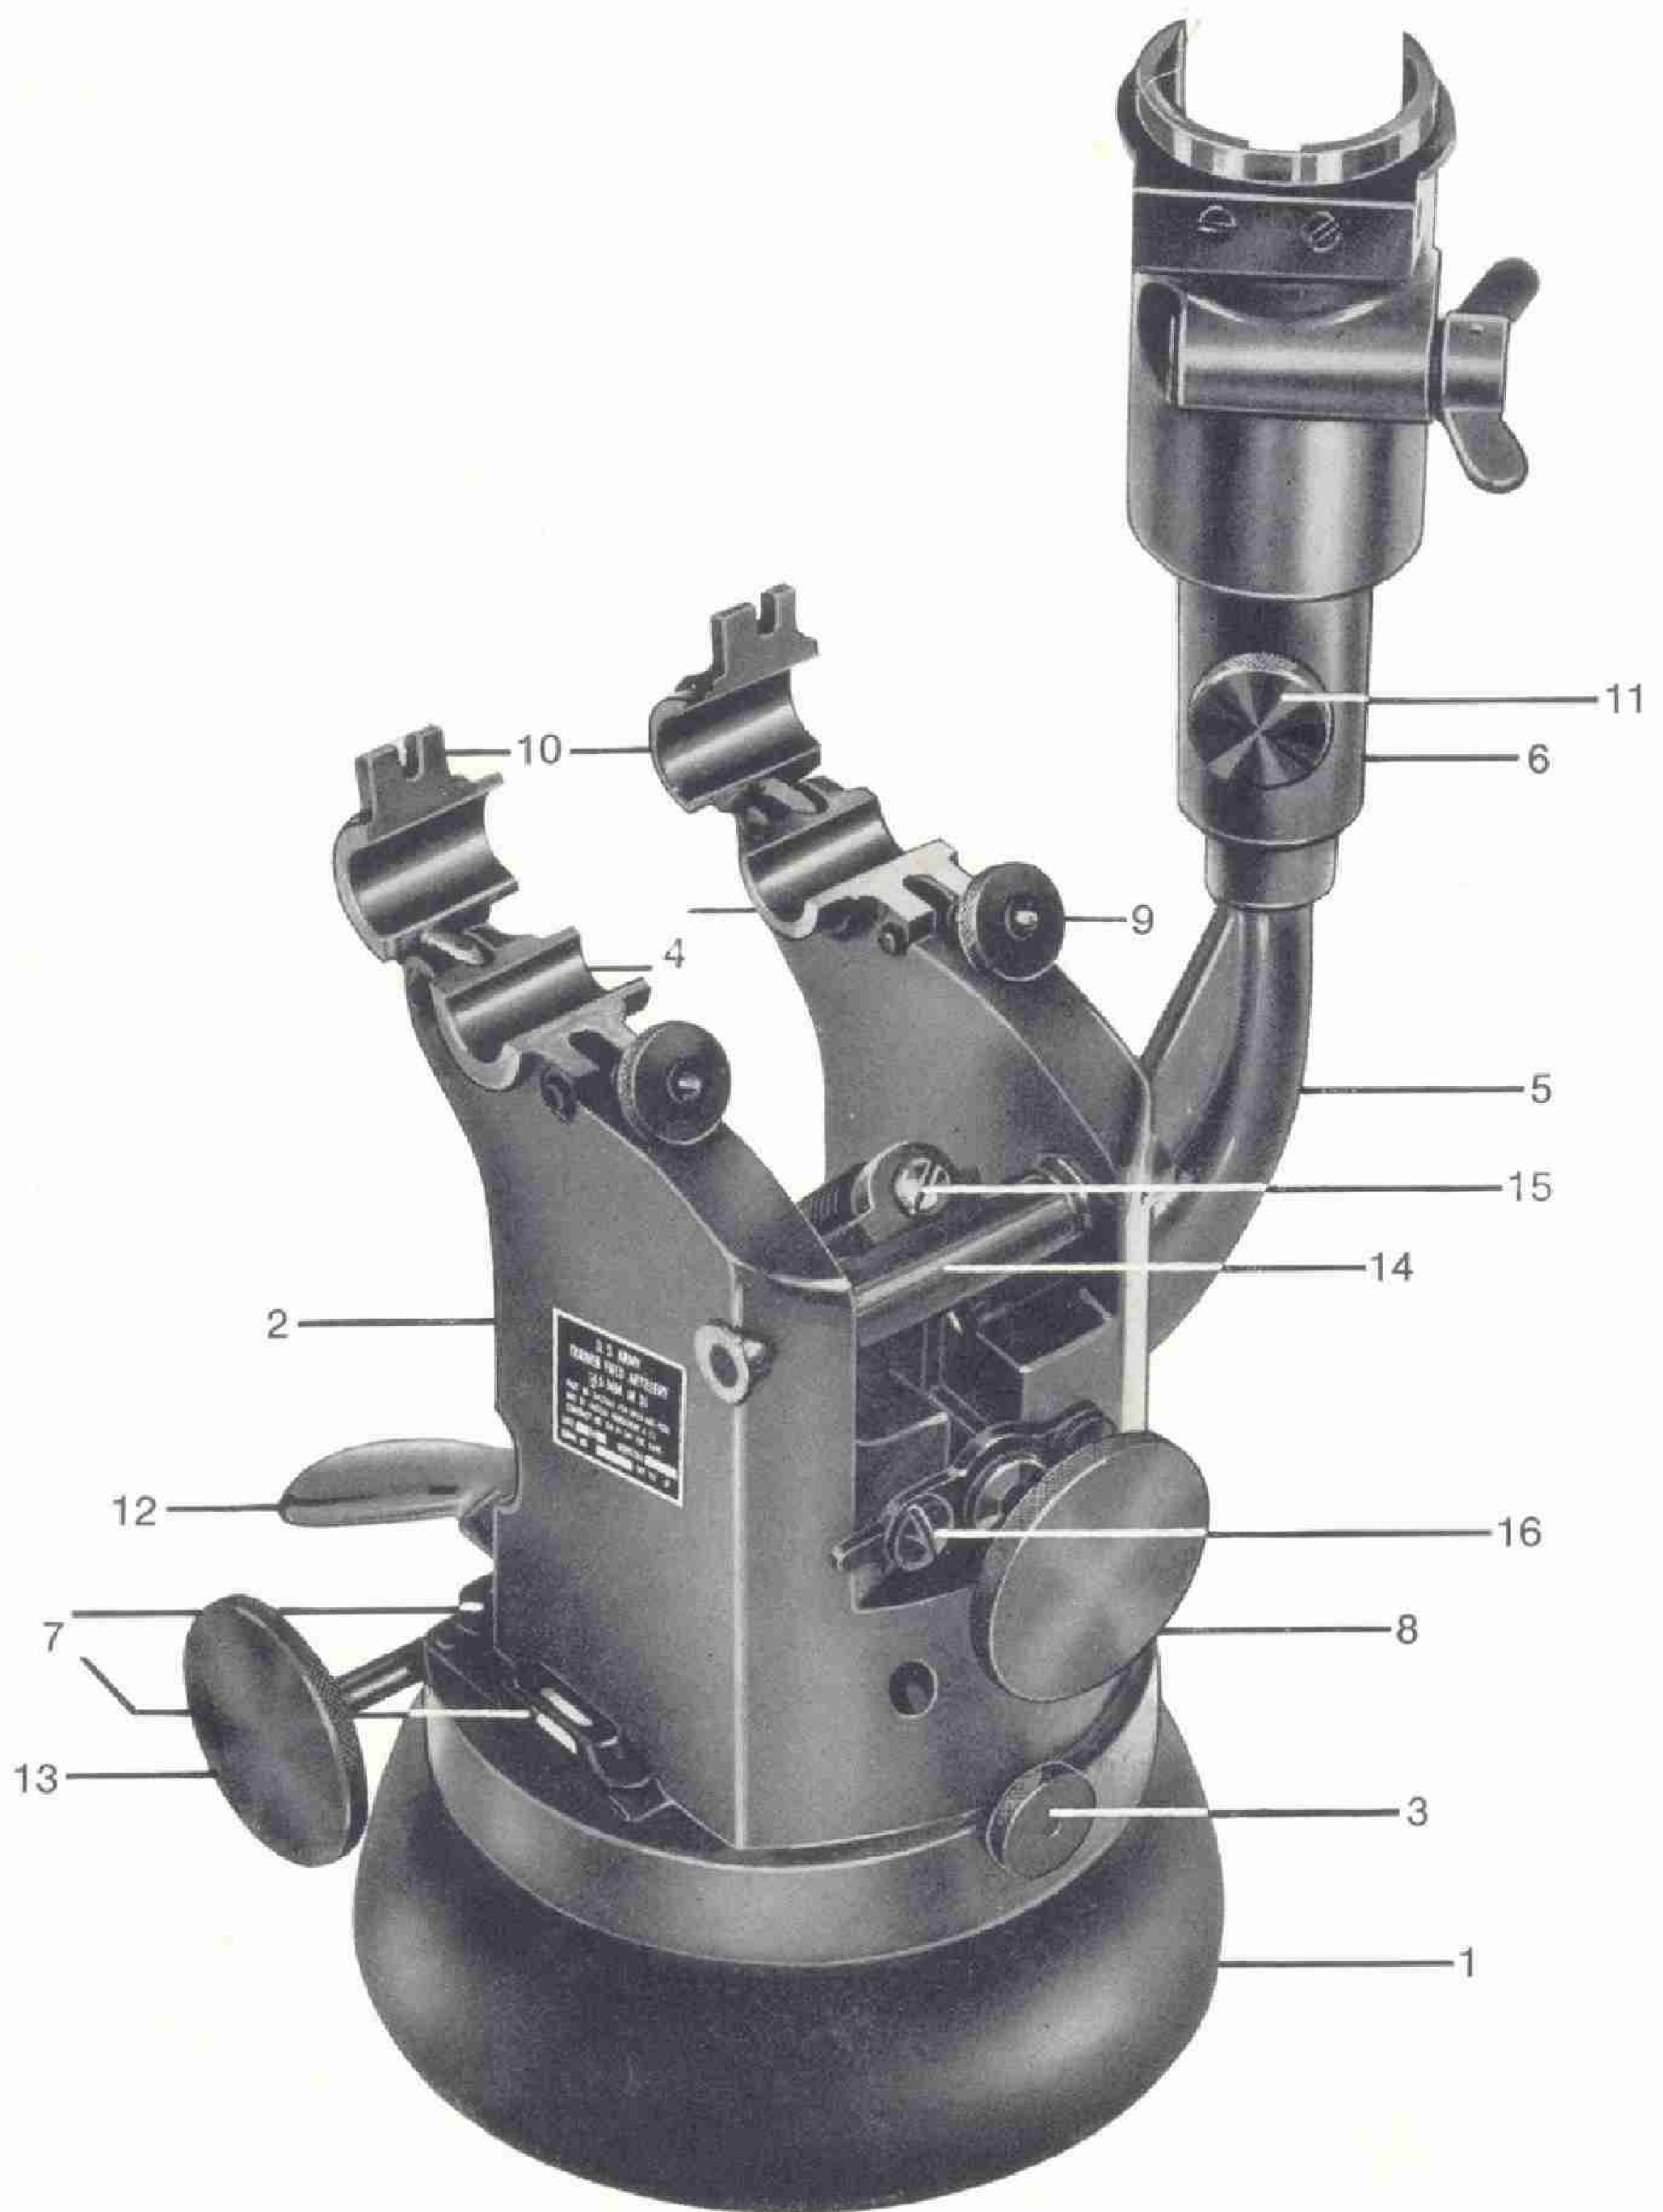

FIGURE 3 MOUNT GROUP
3. The Mount (figs. 3, 4 and 5)
On its bottom the base mount (fig. 3–1) has the corresponding recesses for receiving the tripod base and the thread for the locking screw. Inside the worm wheel gear of the traversing mechanism is screwed together with the base mount and in addition the pintle pin for taking up the rotating bearing of the upper mount is flanged to it. This pintle pin has a ring groove at its upper end in which the spring-loaded mount locking plunger (fig. 3–3) rests. Thus an axial connection of the upper mount with the base mount is assured.
The upper rotating mount (fig. 3–2) consists of two cheeks with hinged trunnion seats (fig. 3–4). To the left cheek the bracket (fig. 3–5) for the socket (fig. 3–6) of the panoramic telescope is screwed. At the base of the right-hand cheek there are two level vials (fig. 3–7) located at 90° angle to facilitate levelling of the artillery trainer. Between the cheeks the elevating mechanism is placed (fig. 3–8). In the base of the upper rotating mount the traversing mechanism is located (fig. 3–13 and 4–15).